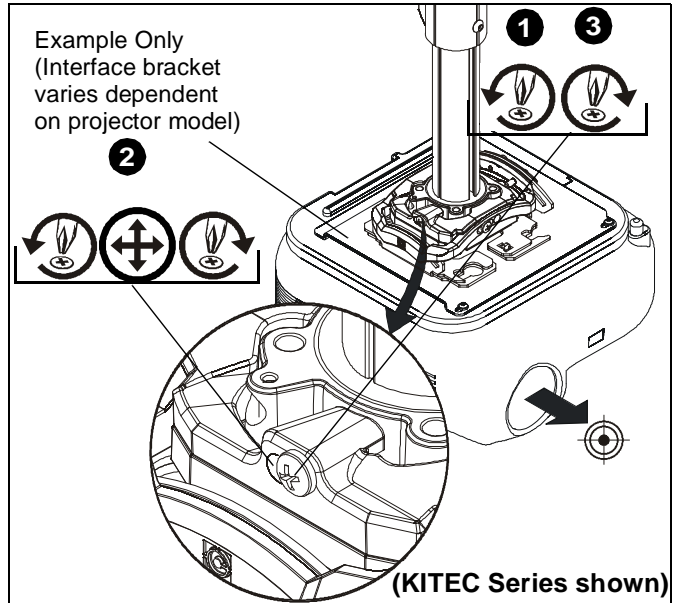

Figure 23
1. Loosen YAW adjustment locking screw using a #2 Phillips screwdriver. (See Figure 23)
2. Turn YAW micro-adjustment screw right or left using a #2 Phillips screwdriver until image is properly aligned on target. (See Figure 23)
3. Tighten YAW adjustment locking screw using a #2 Phillips screwdriver. (See Figure 23)